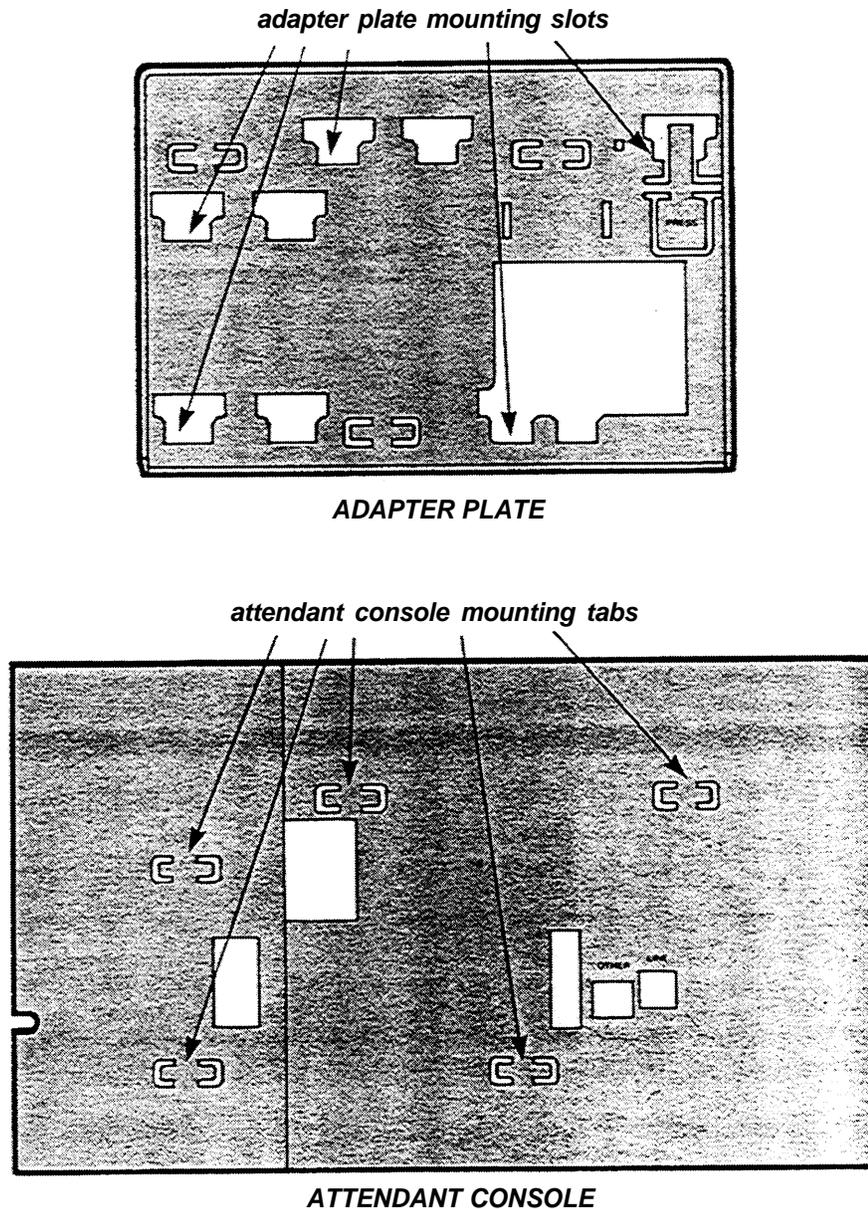

Figure 2.
2. Attach the adapter plate to the bottom of the console by sliding the adapter plate's mounting slots under the attendant console's mounting tabs (see Figure 2). Make sure the largest opening on the adapter plate is over the area for the "OTHER" and "LINE" jacks.